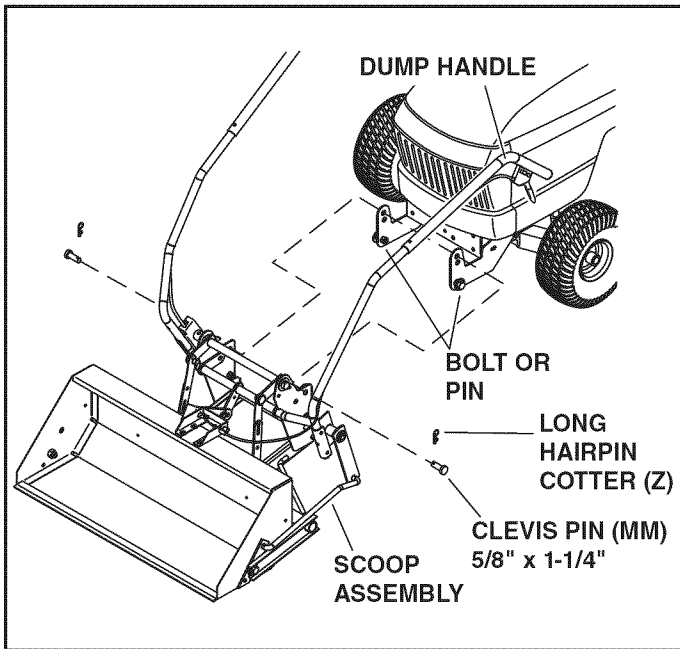

FIGURE 23
STEP 24: MOUNT SCOOP TO TRACTOR (SEE FIGURE 23)
- Align the scoop with the side plates on the front of the tractor. Lift the rear of the scoop and slide the notches in the scoop frame onto the bolts or pins in the tractor side plates. Stand on the left side of the tractor and push down on the scoop dump handle until the holes in the scoop frame and the holes in the side plates are aligned. Install two clevis pins (MM) through the holes and secure with two hairpin cotters (Z).